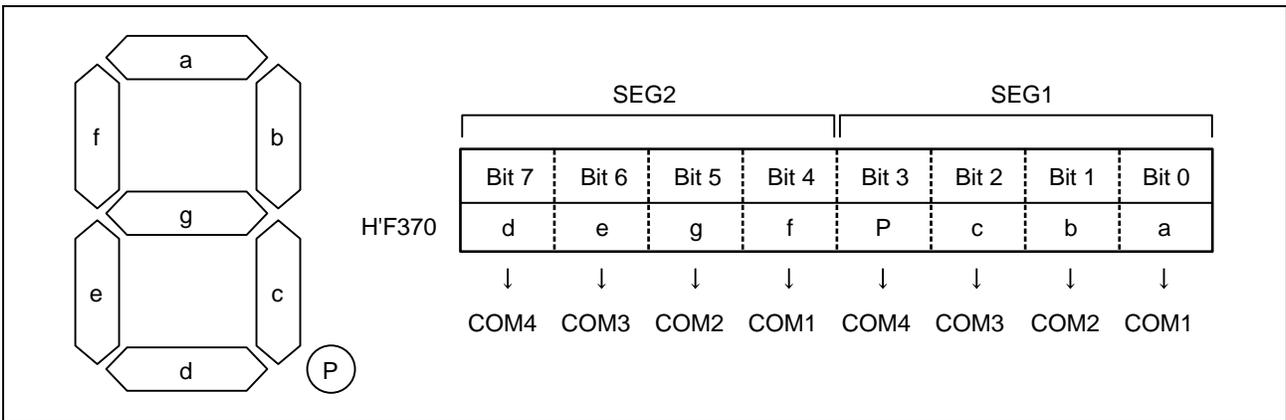

Figure 8 Relationship of LCD RAM Set Values and LCD Display/Non-Display
(6) The relationship of LCD RAM to SEG1 and SEG2 of the LCD panel is shown in Figure 8. When 1 is set in LCD RAM bits corresponding to a through g and P, as shown in Figure 8, the LCD display is turned on, and when 0 is set in these bits, the LCD display is turned off.